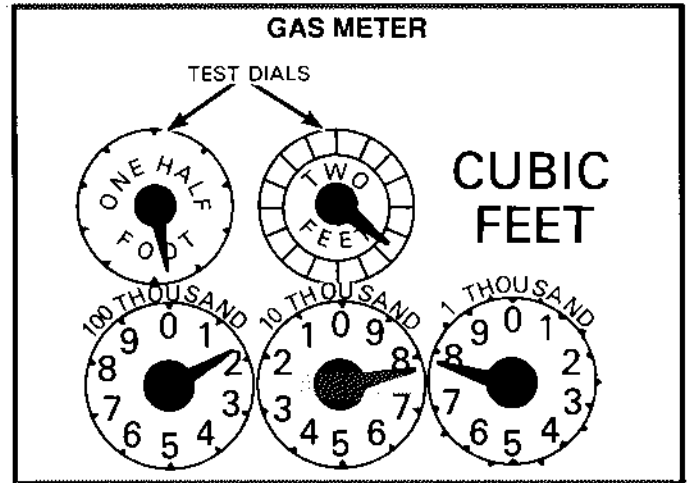

FIGURE 30
- 3— At the gas supply meter and using either the one-, two-, three- or five-foot dial on the meter, time one full revolution (in seconds) with a watch. See figure 30.